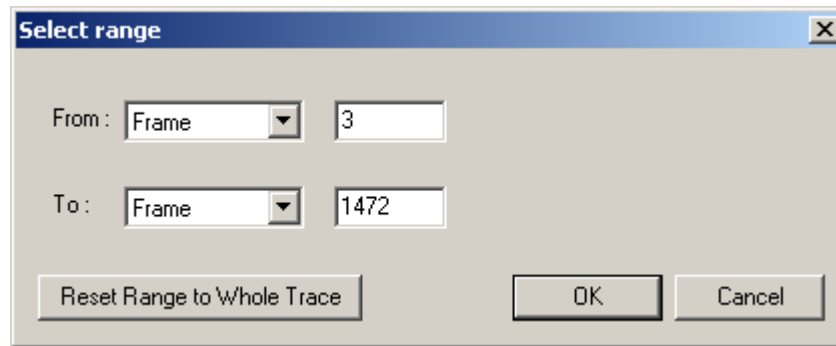

Figure 9.11 Setting Range to Start on Third Frame
Step 5 In the Select Range dialog box, select **Frame** as the protocol unit. Enter 3 as the start point of the range (Figure 9.11).